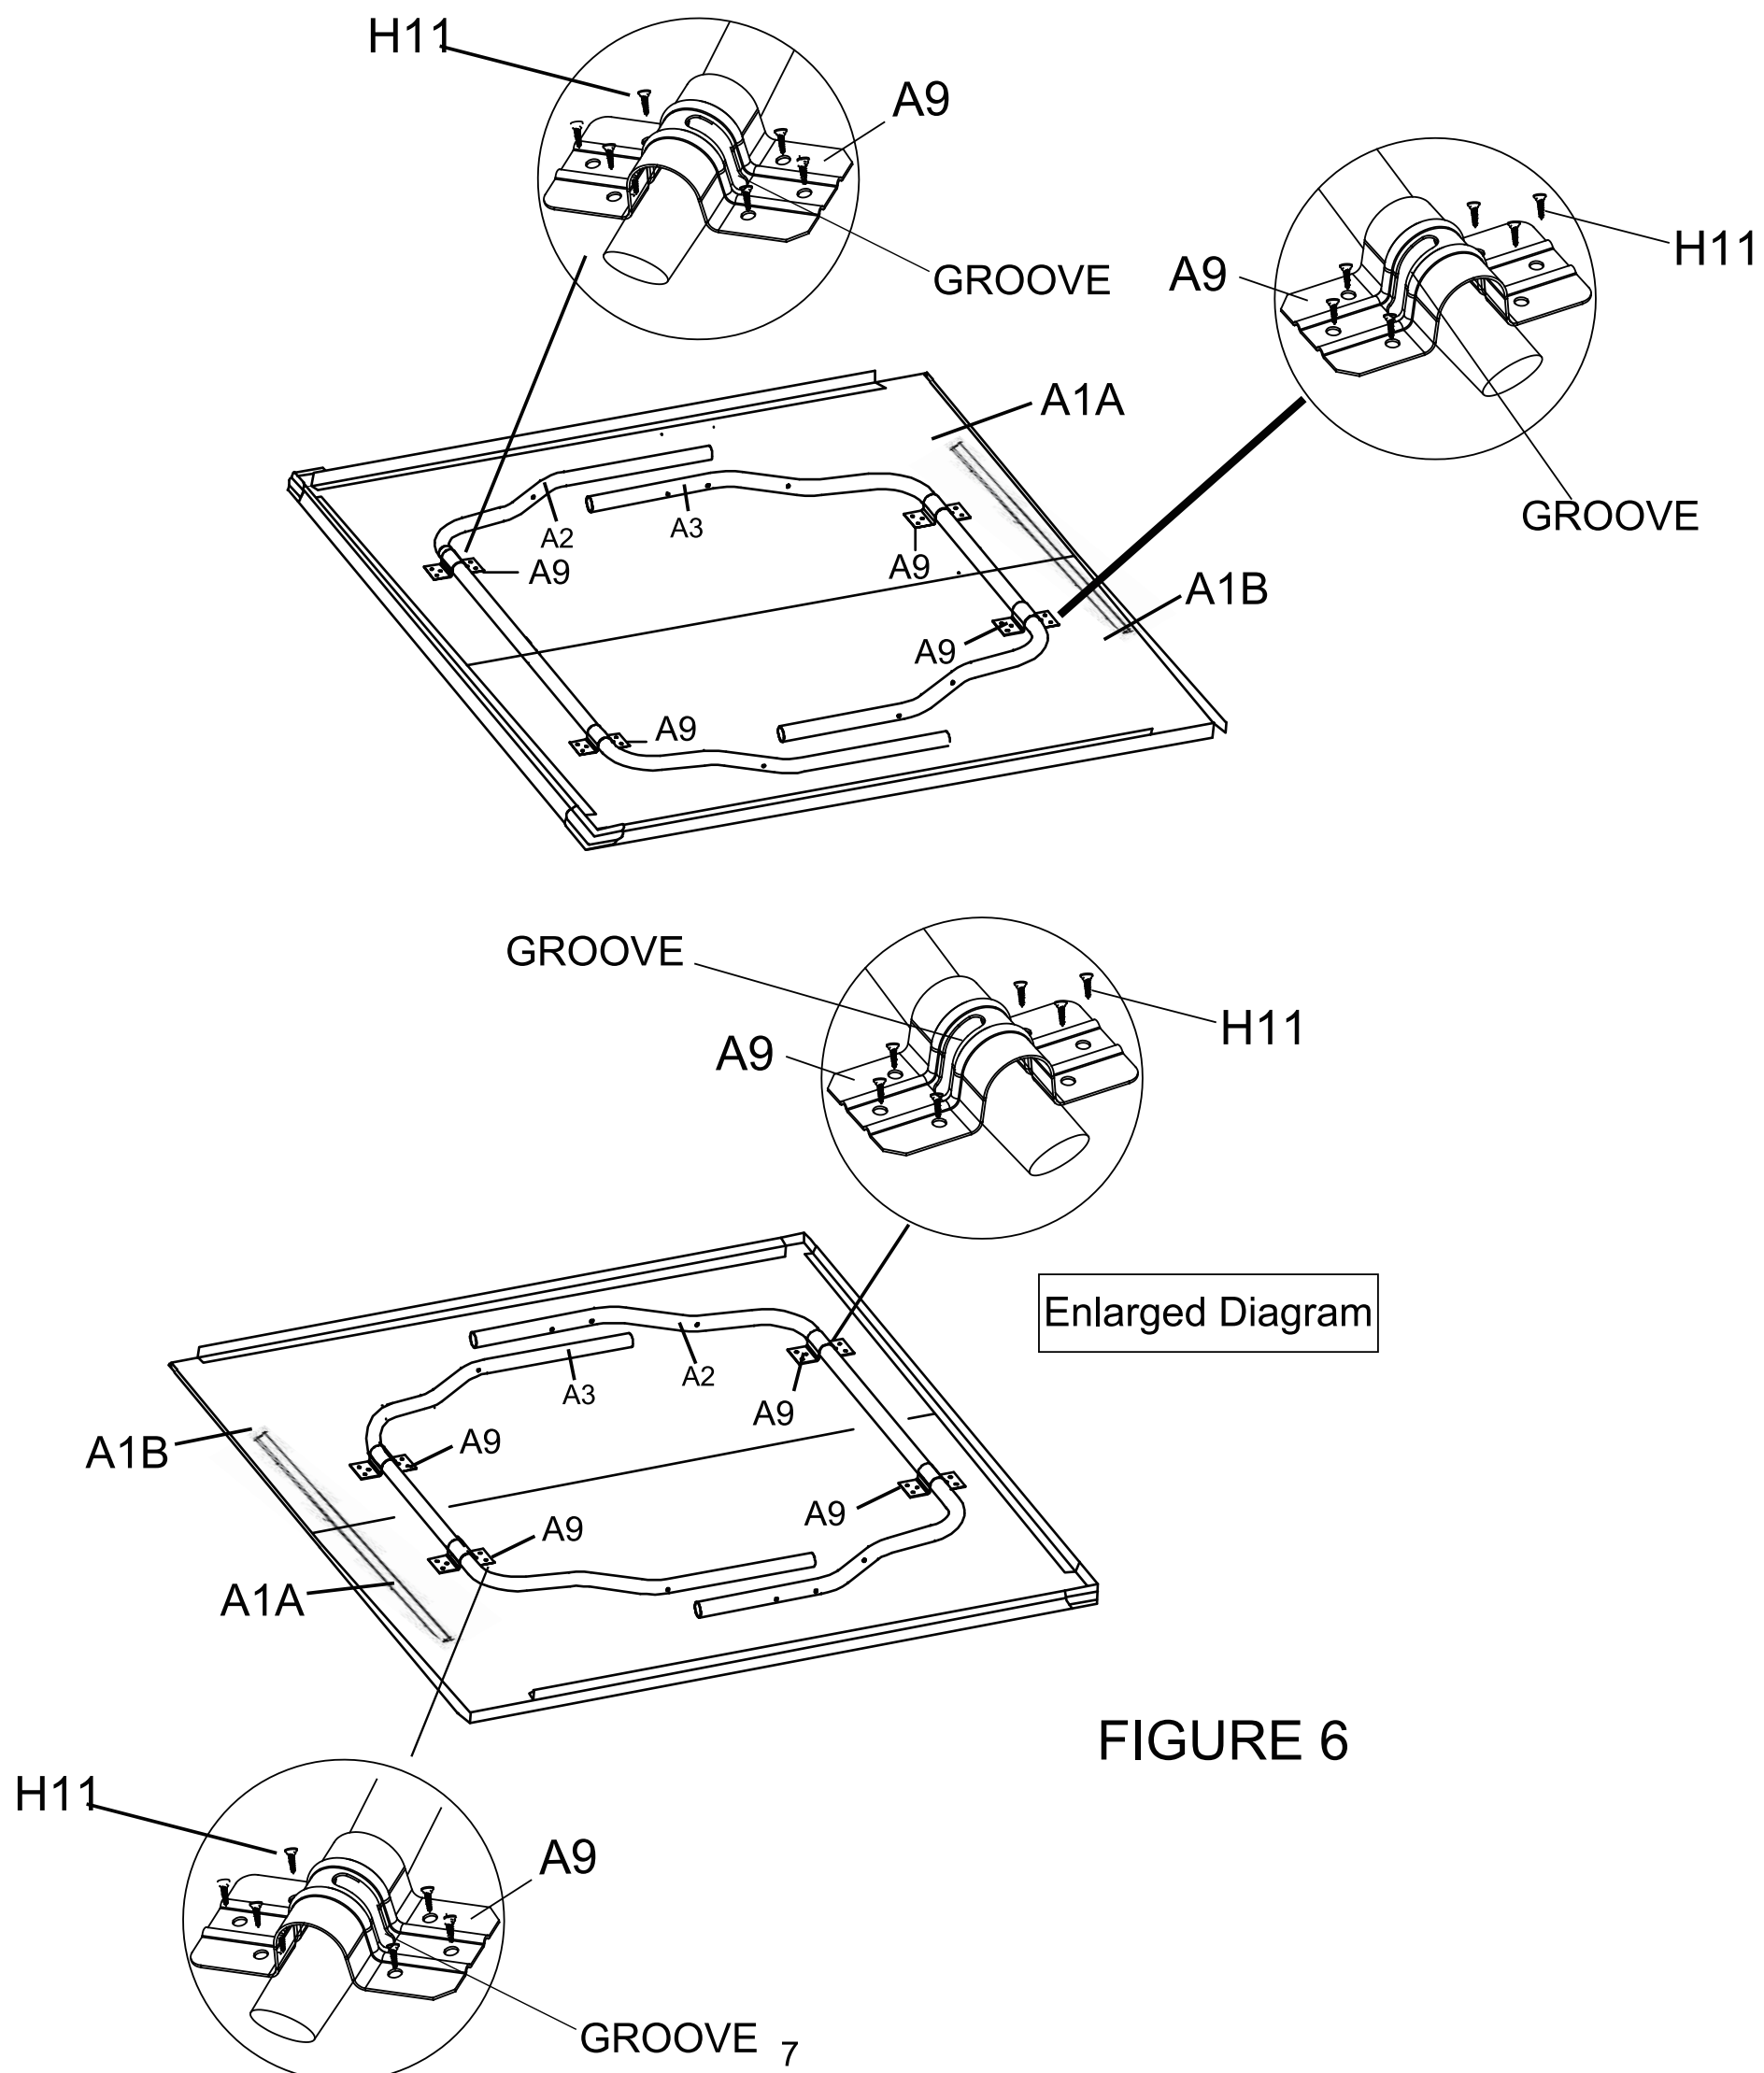

FIGURE 6
STEP 6 : Attach legs A2 & A3 to the bottom of table tops A1A & A1B. Secure with bracket A9 using screws H11 as shown in the enlarged diagram of FIGURE 6. Repeat in the same manner for the other side. Hint : Please note the pre-drilled marks when attaching bracket A9.